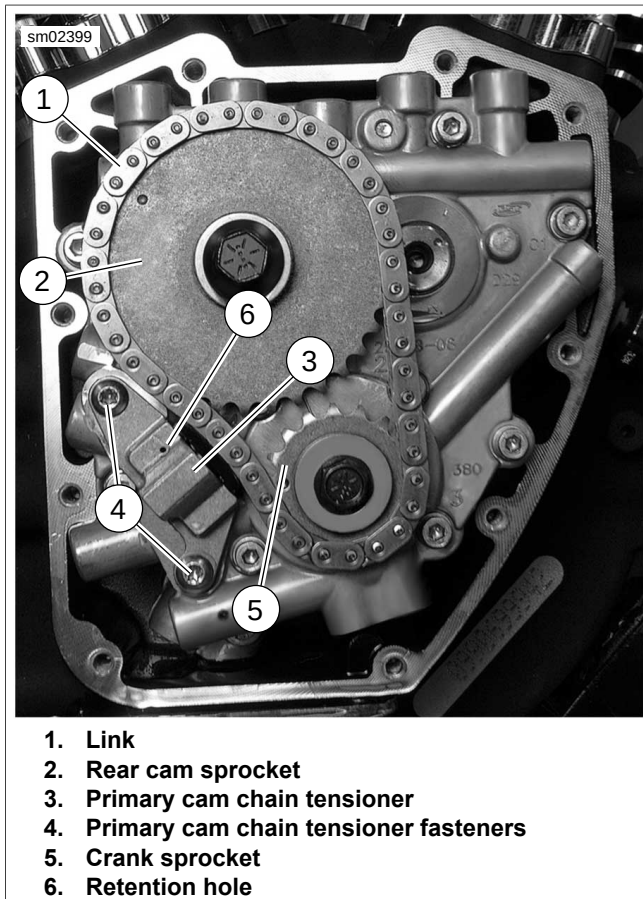

Figure 3-91. Cam Support Plate Assembly
1. See Figure 3-91. Using a colored marker, mark one of the links (1) of the primary cam chain to identify the visible side. Maintaining the original direction of rotation during assembly may prolong service life.